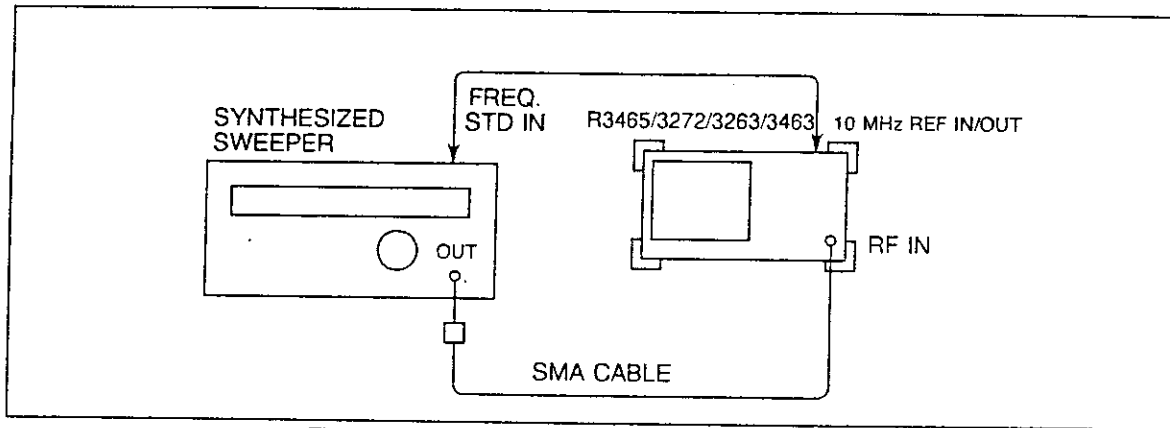

Figure 1-4 Frequency Span Accuracy Test Setup
(1) Connect the equipment as shown in Figure 1-4.
(2) Set the SG3 controls as follows: